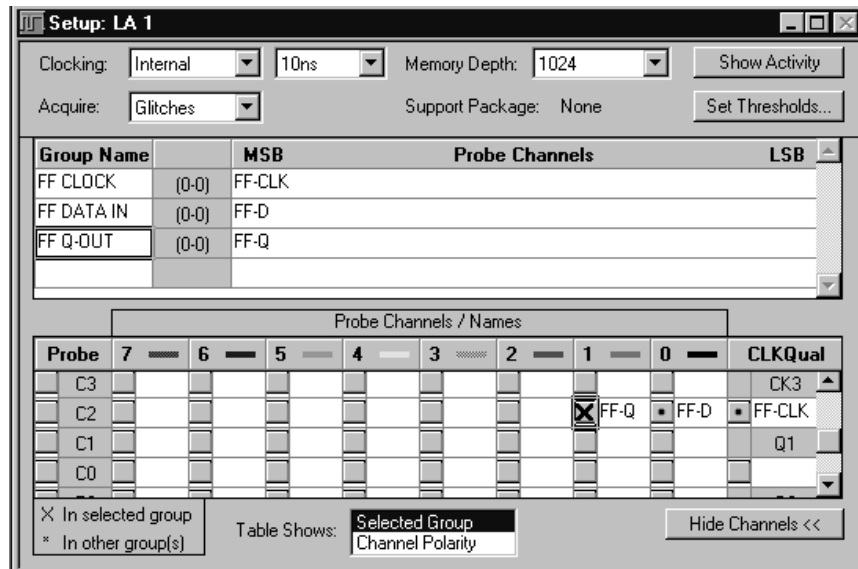

Figure 2–10: Channel setups for Exercise 1
1. Open the Setup window to see how the probe channels are defined and labeled for this exercise. Figure 2–10 shows an example of the Setup window; similar setups will be used for the logic analyzer module for all of the general purpose exercises.